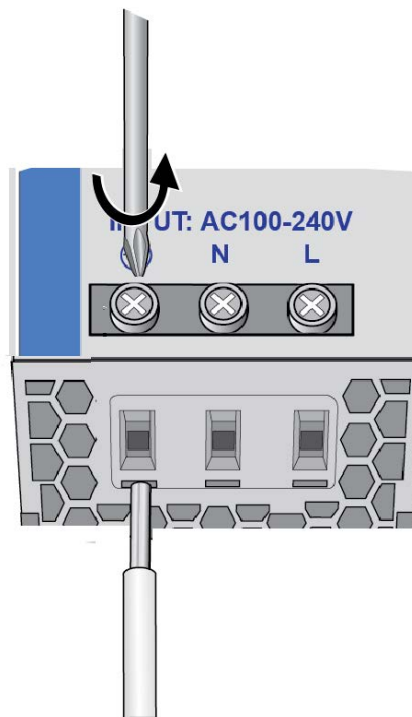

Figure 12. Installing the Ground Wire
2. Loosen the ground screw on the front panel of the power supply and insert the ground wire in the connector on the bottom panel. Refer to Figure 12.